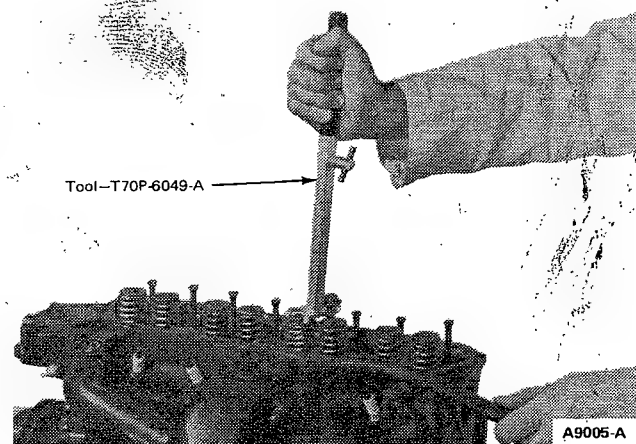

FIG. 30 Compressing Valve Spring — In-Chassis
7. Suitably support the appropriate valve (Figure 30) with air pressure.